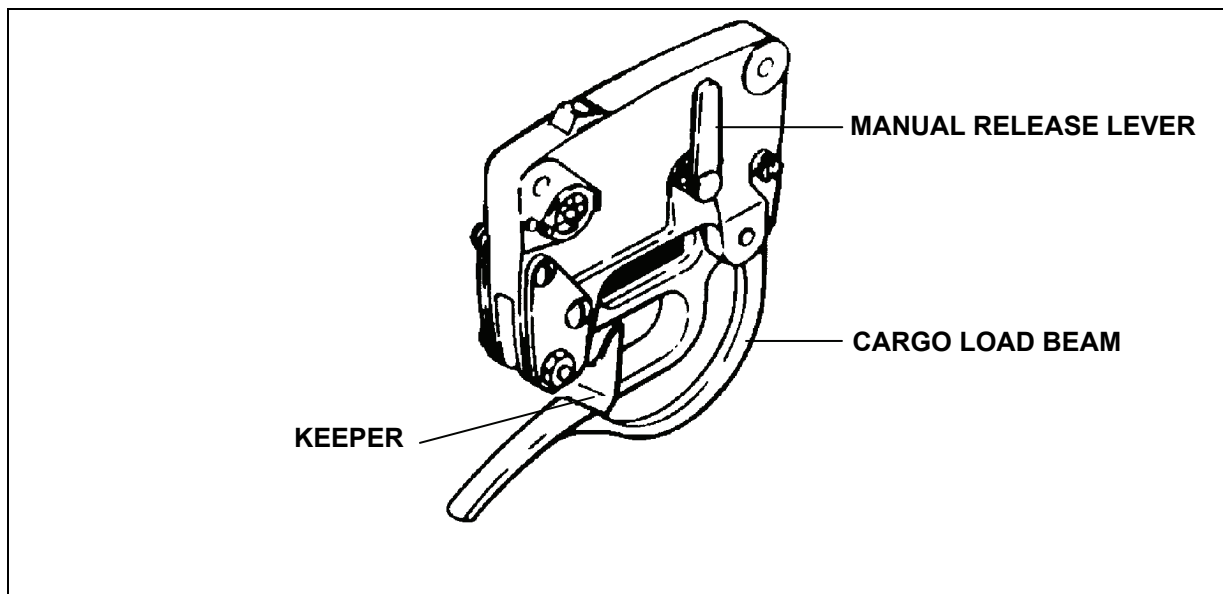

Figure 2-3. UH-1 Cargo Hook
- The UH-1H/P and UH-1N cargo hook maximum capacity is 4,000 pounds and 5,000 pounds respectively. The cargo hook is suspended in a well in the belly of the aircraft directly below the main rotor system (Figure 2-3). The AC6000500 pendant can be used with this cargo hook (USMC, USN).